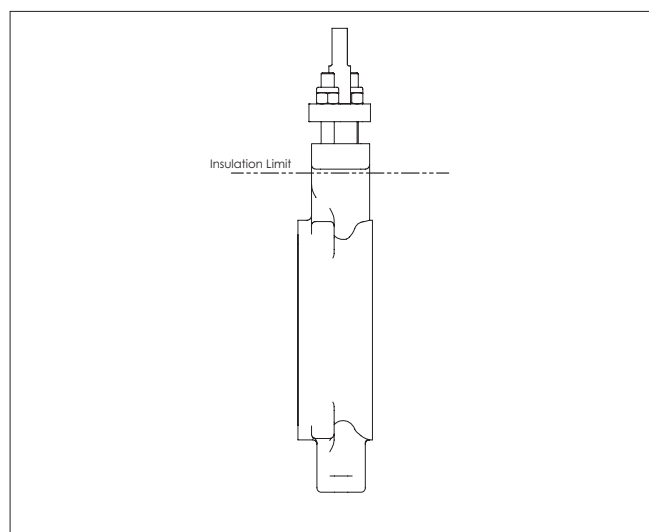

Figure 6.
6. It is not recommended to install the valve with the stem on the underneath side because dirt in the pipeline may then enter the body cavity and potentially damage the stem packing (**see Figure 6**).